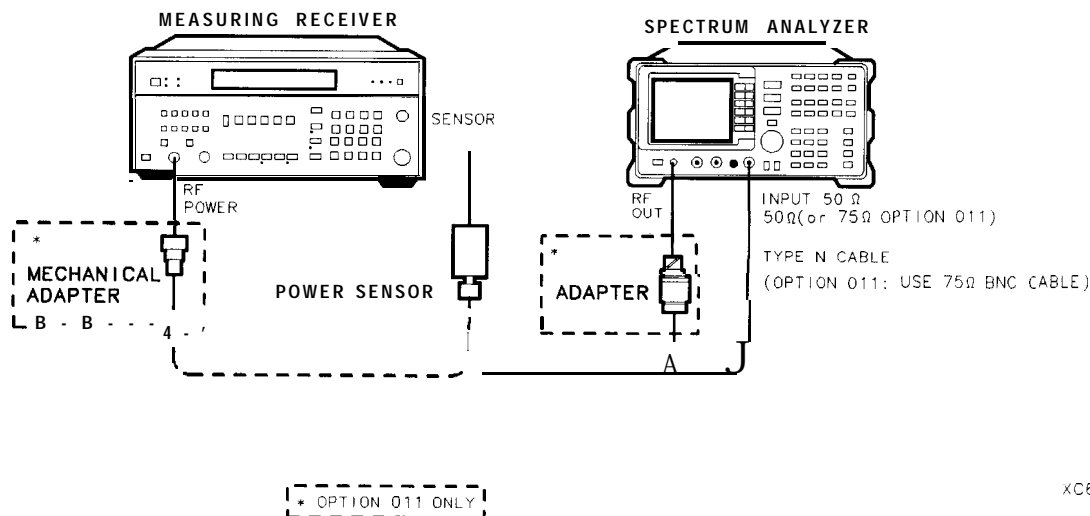

Figure 2-90. Tracking Generator Level Flatness Test Setup
1. Connect the Type N cable between the RF OUT 50  $\Omega$  and INPUT 50  $\Omega$  connectors on the spectrum analyzer. See Figure 2-90.
3. On the spectrum analyzer, press **(MKR)**, **(AUX CTRL)**, Track Gen , SRC PWR ON OFF (ON), and enter -5 **(dBm)**.